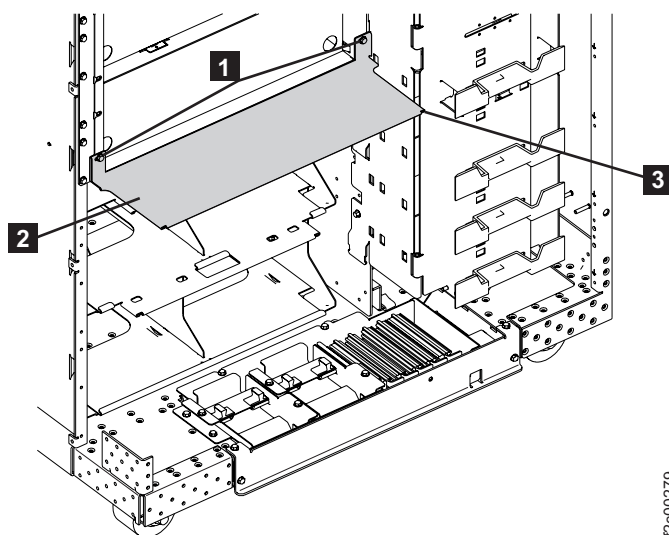

Figure 48. Air baffle
- Swing the 208VDC bus bar gate back into its non-service position. Reinstall and tighten the two retaining screws **1**. See Figure 48.
- For an expansion rack, if you removed the air baffle **2** earlier to allow the 208VDC bus bar to swing open, then reinstall it now. See Figure 48.